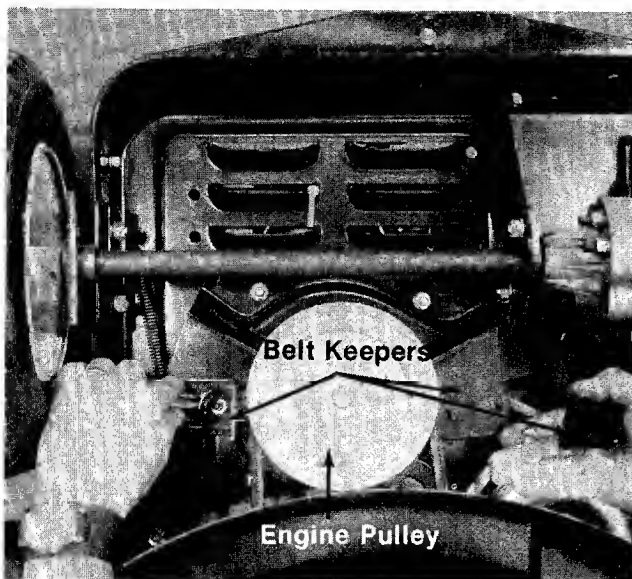

FIGURE 20. REMOVAL OF BELT KEEPERS
- Step 2. Remove two belt keepers at the engine pulley. See figure 20.